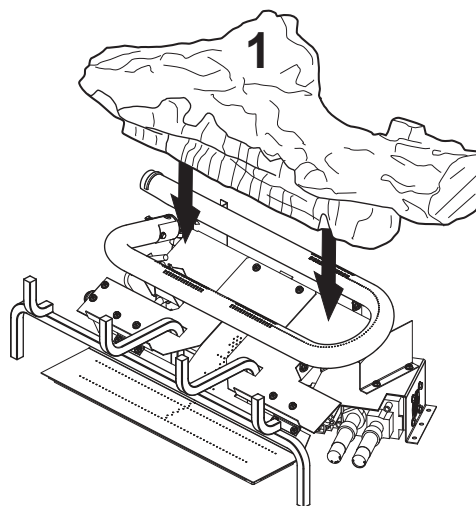

Figure 21 - Installing Log #1
1. Place rear log (#1) on base assembly as shown in **Figure 21**. Log will fit over right end of burner and rest in middle of U-burner.